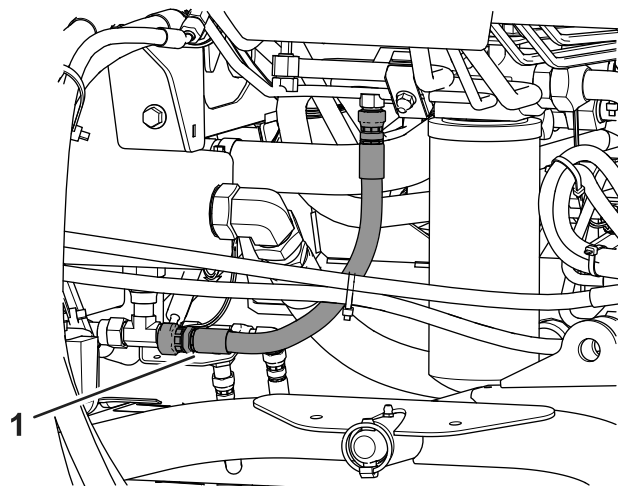

Figure 68
2. Place a large drain pan under the fitting secured to the bottom of the hydraulic-fluid reservoir (Figure 68).